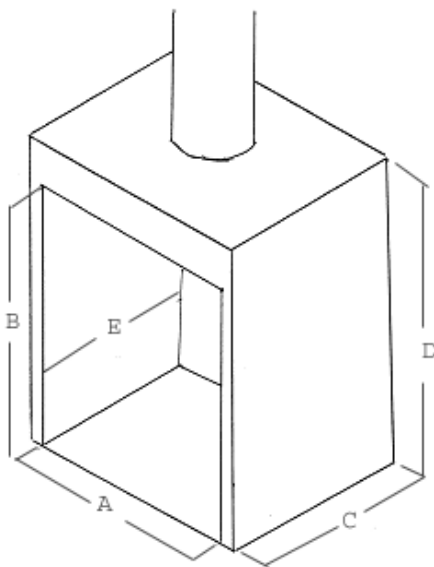

Figure 2.
- 1.2. The appliance can be fitted to fireplaces, which meet the dimensional requirements shown in Figure 2. The hearth must be of non-combustible material, BS 5871; Part 3, and must meet the dimensional requirements stated therein.